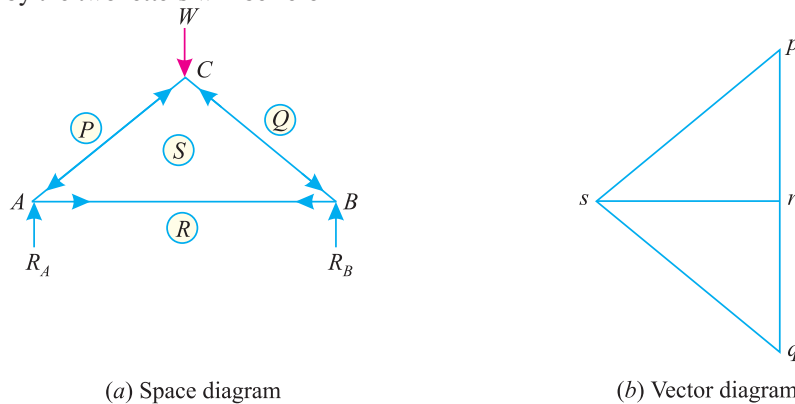

Fig. 14.2.
Measure all the sides of the vector diagram, whose lengths will give the forces in the corresponding members of the frame to the scale *e.g.*, the length *ps* of the vector diagram will give the force in the member *PS* of the frame to the scale. Similarly, the length *sr* will give the force in the member *SR* to the scale and so on as shown in Fig. 14.2. (b).
1. In the space diagram, go round a joint in a clockwise direction and note the order of the two letters by which the members are named *e.g.*, in Fig. 14.2 (a) the members at joint (A) are *RP*, *PS* and *SR*. Similarly, the members at joint (B) are *QR*, *RS* and *SQ*. And the members at joint (C) are *PQ*, *QS* and *SP*.
5. Since these arrows indicates the direction of the internal forces only, thus the direction of the actual force in the member will be in opposite direction of the arrows, *e.g.*, a member with arrows pointing outwards *i.e.*, towards the joints [as member *PS* and *SQ* of Fig. 14.2 (a)] will be in compression; whereas a member with arrow pointing inwards *i.e.*, away from the joints [as member *SR* in Fig. 14.2 (b)] will be in tension.